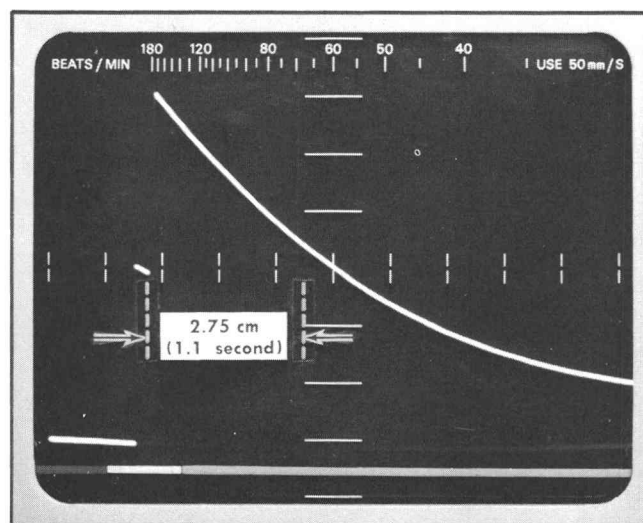

Fig. 6-15. Typical CRT display when checking low frequency—3 dB point.
d. Set the standard amplitude calibrator for a 5-volt —DC output and position the trace to the third cm mark below graticule center (see Fig. 6-15).
f. CHECK—Trace must step to at least the third cm mark above graticule center and decay to graticule center in more than 1.1 seconds (see Fig. 6-15).